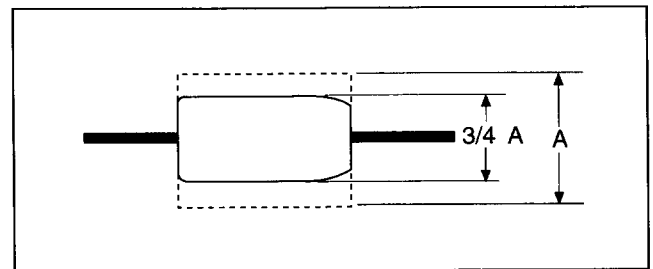

Fig. 31
- 1) Confirm that amplitude of the RF waveform decreases to about 3/4 when the machine enters the PATH mode. (Refer to Fig. 31)